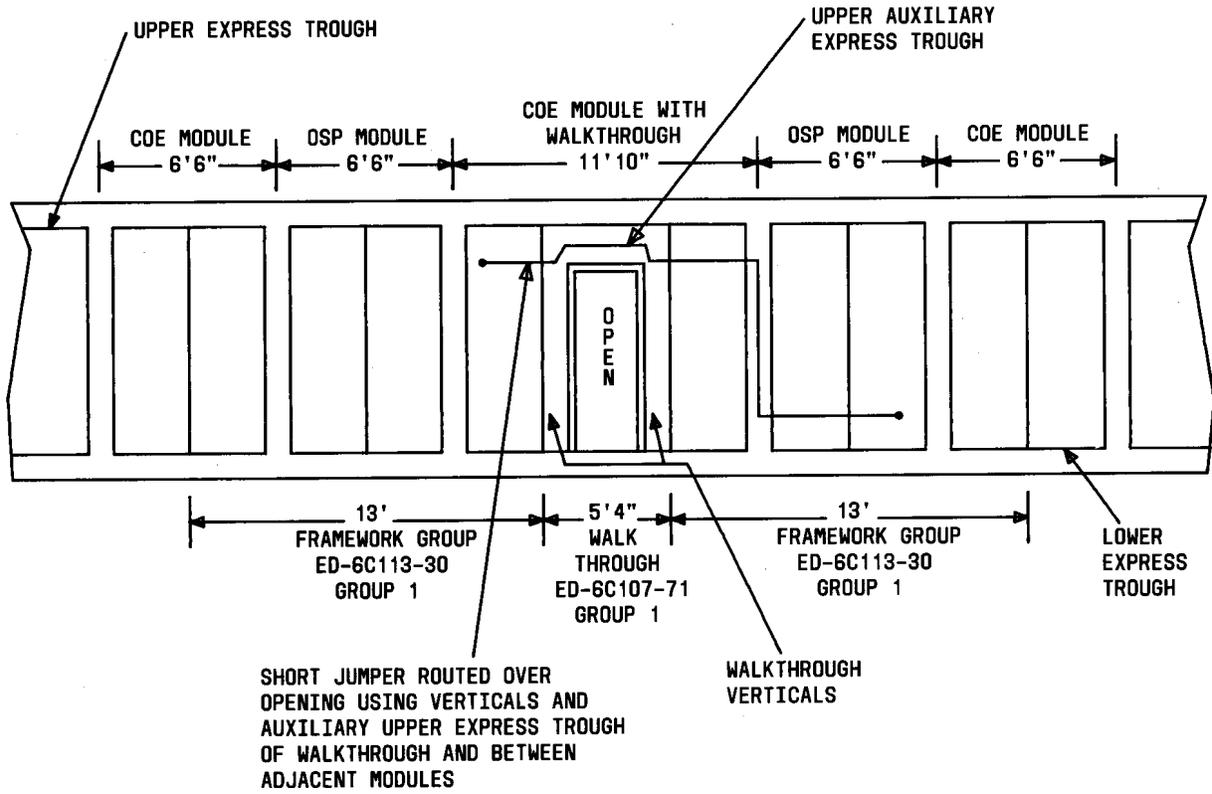

Fig. 4—Location of Walkthrough
**3.09** Generally, lineups of more than 5 framework groups, 10 modules, are provided with one or more walkthroughs (Fig. 4) placed between bays of a COE module. The upper and lower express